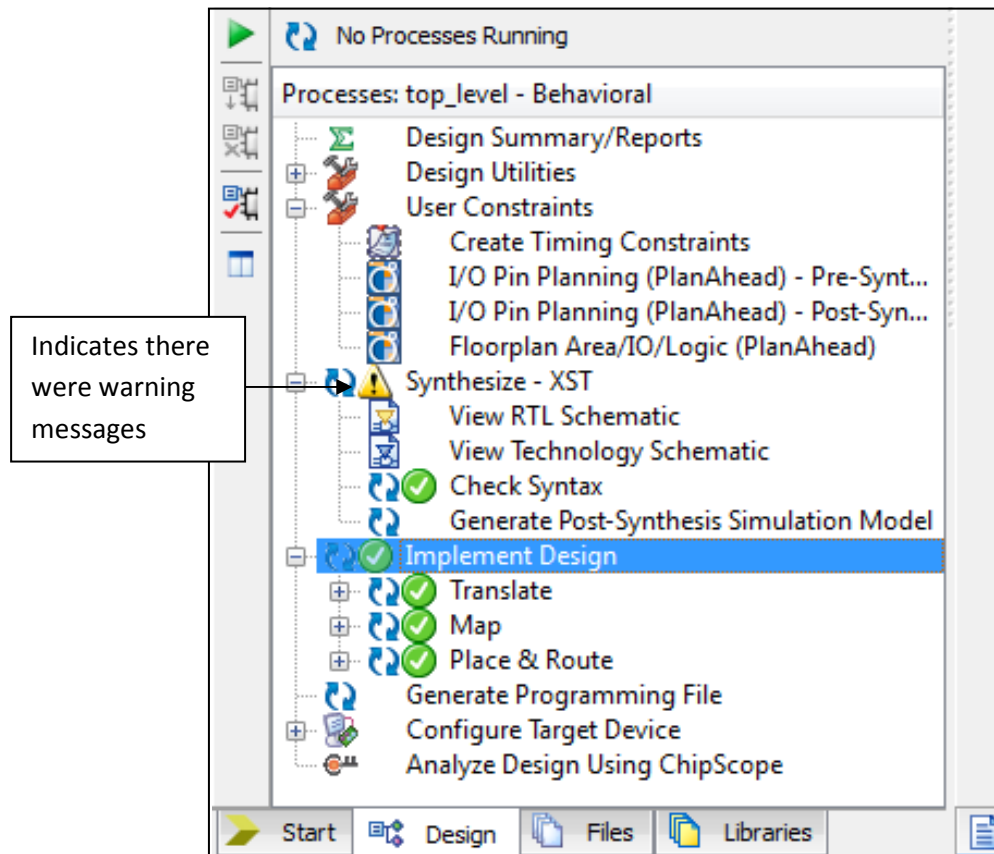

Figure 5.35: Portion of Project Navigator screen, with Implement Design expanded, after Translate, Map and Place & Route have successfully been run.
2. Double-click on Implement Design. This will first cause Synthesize – XST to run. Next, Translate, Map and Place & Route will run in turn. As each stage is completed, a green tick will appear next to it. If there are warning messages at any stage, a yellow icon with an exclamation mark will appear. The user can inspect these warning messages and decide whether they are critical to the design. After all three stages are complete, the Project Navigator screen will appear as shown in Figure 5.35.